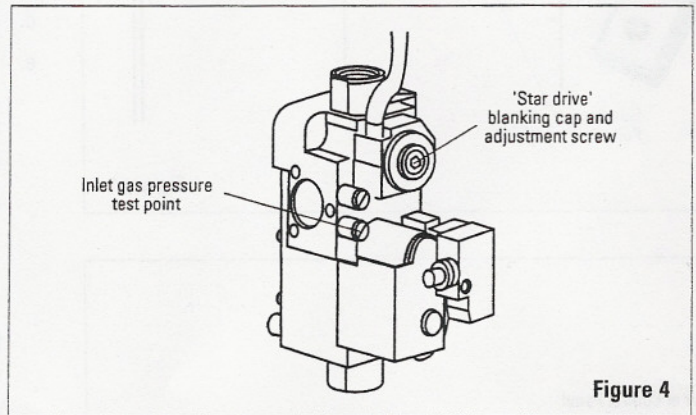

Figure 4
- g. Using a 'star drive' screwdriver, remove the gas valve blanking cap, see Fig. 4. Turn the inner screw clockwise to increase CO2 and anticlockwise to reduce CO2 until the correct value is obtained. Replace the blanking cap.